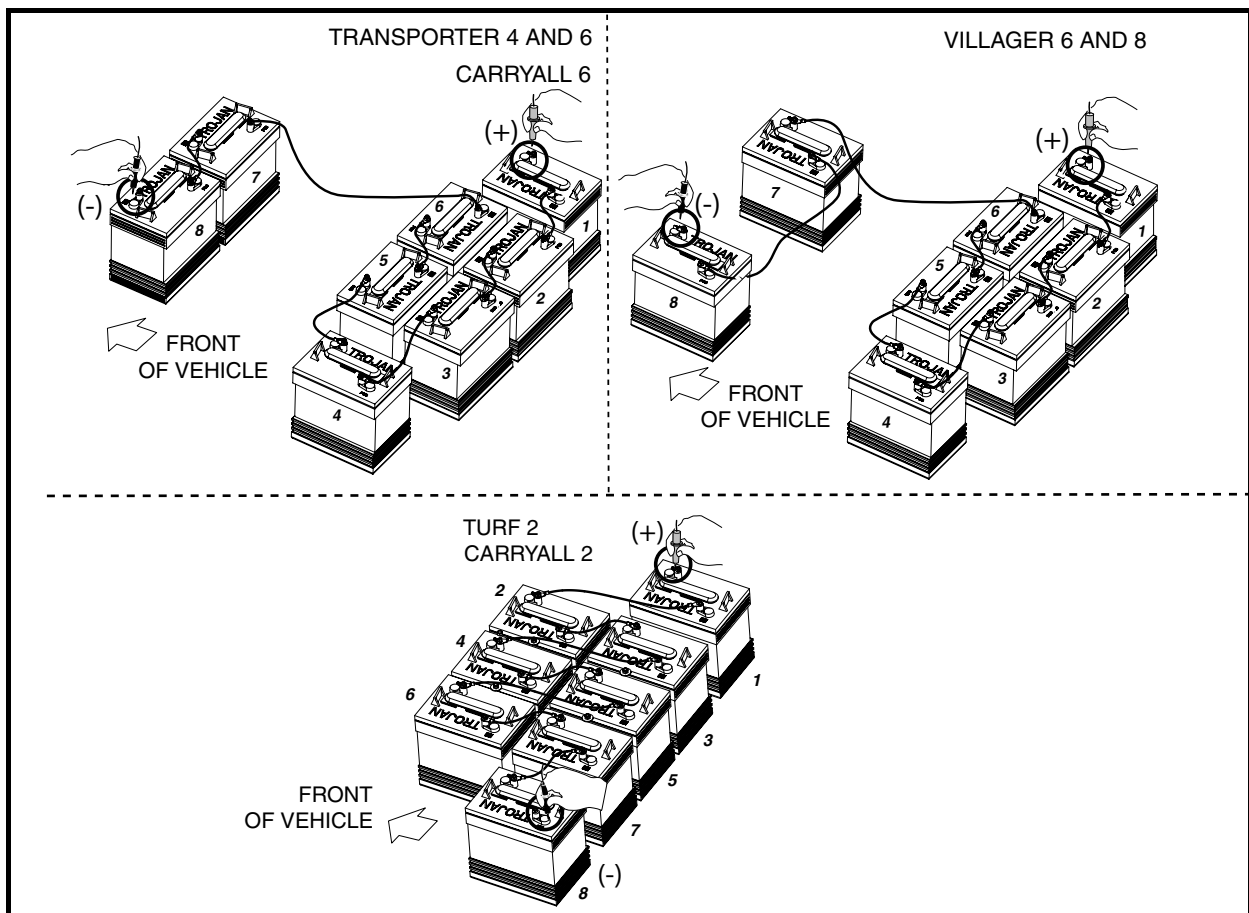

Figure 11-7 IQ Plus Battery Configurations
1. With batteries connected and using a multimeter set to 200 volts DC, place red (+) probe on the positive (+) post of battery no. 1 and the black (–) probe on the negative (–) post of battery no. 8 (**Figure 11-7, Page 11-15**). The multimeter should indicate at least 48 volts with the batteries fully charged. If not, check for loose battery connections or a battery installed in reverse polarity. Refer to Section 14 – Batteries, for further details on battery testing.